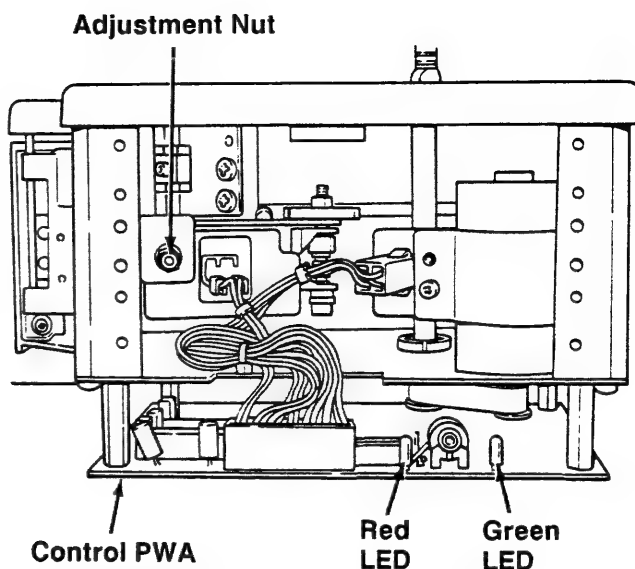

Figure 3-6A
8. Turn the Manual Scan Control clockwise. The Green LED on the Control PWA (Figure 3-6A) should go out while turning the Manual Scan Control and stay on when the Manual Scan Control is not turned. Turn the Adjustment Nut (Figure 3-6A) until this condition is met.
1. Turn the Adjustment Nut (Figure 3-6A, pg 3-8) so the Channel 1 waveform leads the Channel 2 waveform by $90^\circ \pm 15^\circ$ (Figure 3-6. 2C).